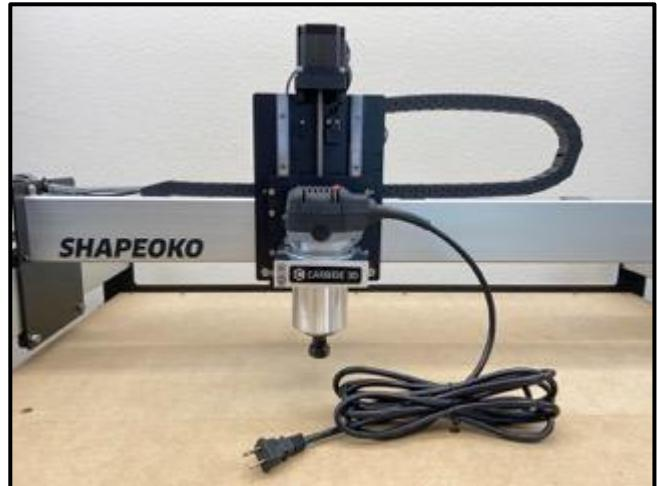

Figure 10-4
1. Use the 4mm hex key to loosen the two (2) M5x55mm socket head cap screws on the front of the router mount
2. Insert the router into the mount until the taper of the router's body meets the adapter ring. Ensure the power cord extends to the right. See *Figure 10-4*.